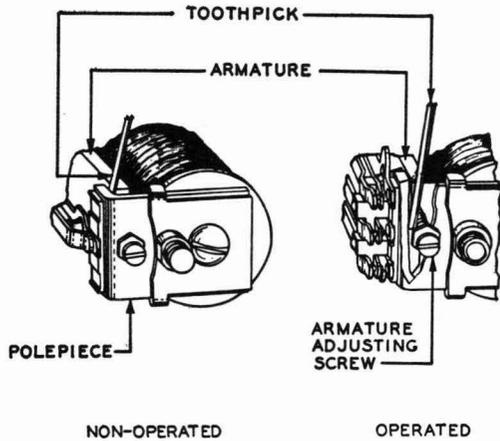

Fig. 8—Blocking 111-, 121-, 122-, 125-, 149-, 162-, 178-, and 179-type Relays
3.10 **111-, 121-, 122-, 125-, 149-, 162-, 178-, and 179-type Relays:** Fig. 8—Block relays nonoperated by inserting the flat end of a toothpick between the armature and the pole piece. Block relays operated by inserting the flat end of a toothpick between the armature and the armature adjusting screw. Break the toothpick if necessary in order to insert it.